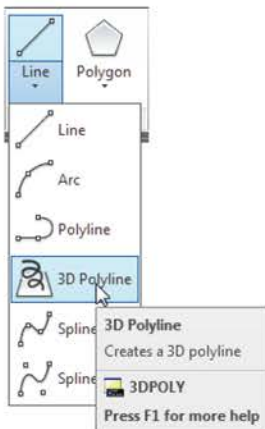
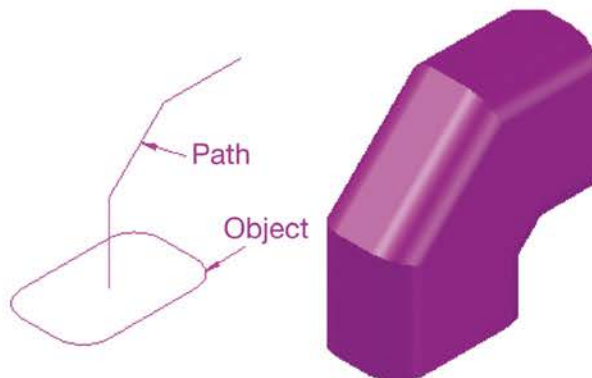

Fig. 9.15 The 3D Polyline tool from the Home/Draw panel
Fig. 9.16 Second example – Extrude
THIRD EXAMPLE – EXTRUDE (FIG. 9.16)
2. Construct an 80×50 rectangle, filleted to a radius of 15. Then, in the **Layers & View/Front** view and using the **3D Polyline** tool from the **Home/Draw** panel (Fig. 9.15), construct 3 3D polylines each of length 45 and at 45° to each other at the centre of the outline as shown in Fig. 9.16.